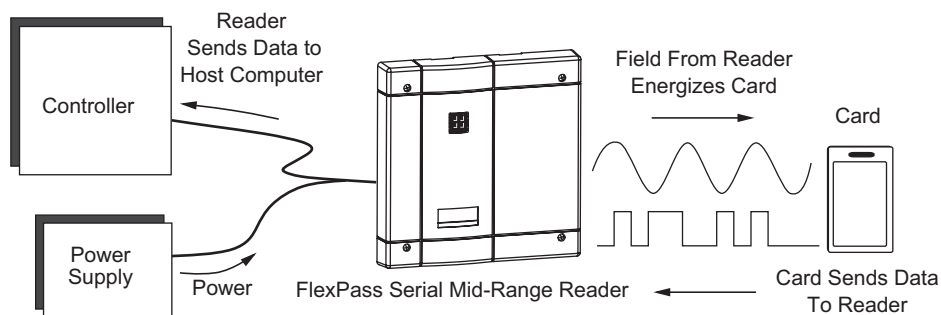

Figure 1 FlexPass Serial Mid-Range Reader Block Diagram
When the reader is powered, a low-power radio frequency (RF) field is continuously transmitted by the reader (see Figure 1). When a card is presented within the field of the reader, the microchip, embedded in the card, is activated and transmits a unique identification (ID) number back to the FlexPass Serial Mid-Range Reader. The reader decodes and converts this data to the pre-determined RS-232/485 compatible format and sends this code to an external controller through a data cable. With